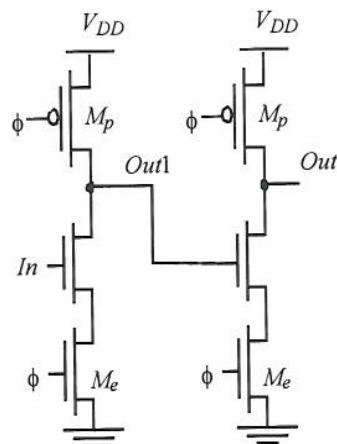

Figure 5.1 Dynamic logic circuit
- c) Using the circuit in Figure 5.1, explain the main problem of dynamic logic.